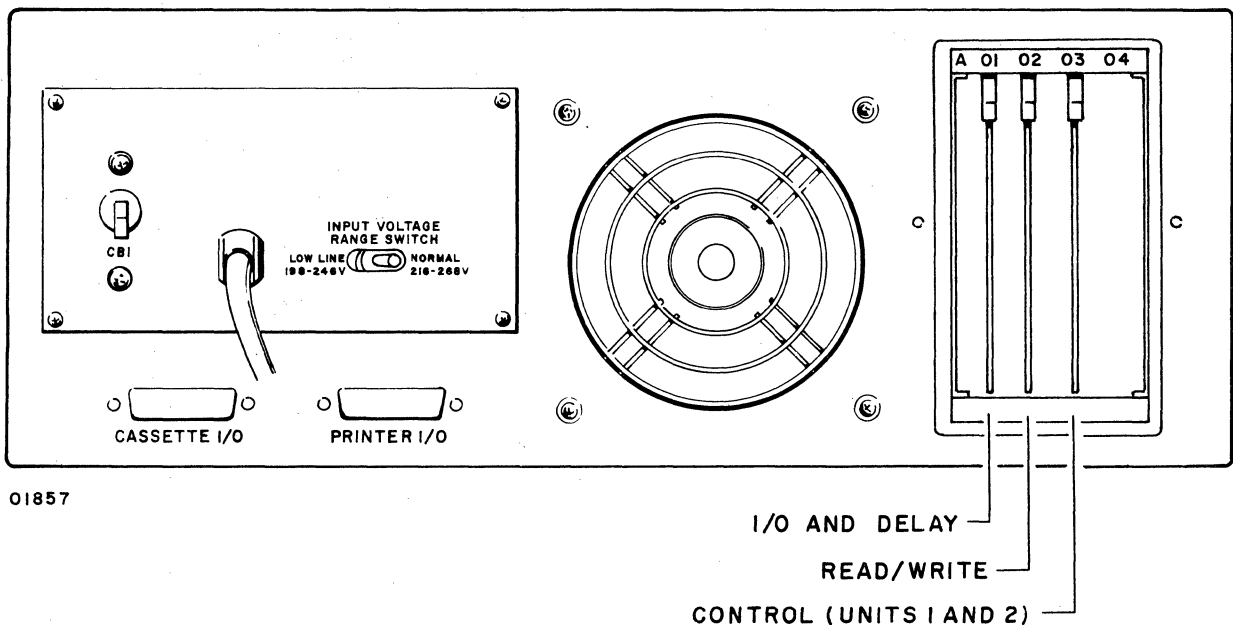

Figure TCU3. Logic Chassis Board Locations
- 3) Release friction clamp arm holding board (figure TCU3) in place.
- 6) Place board in correct location (figure TCU3) and carefully slide board in track until board touches connector sockets at back.